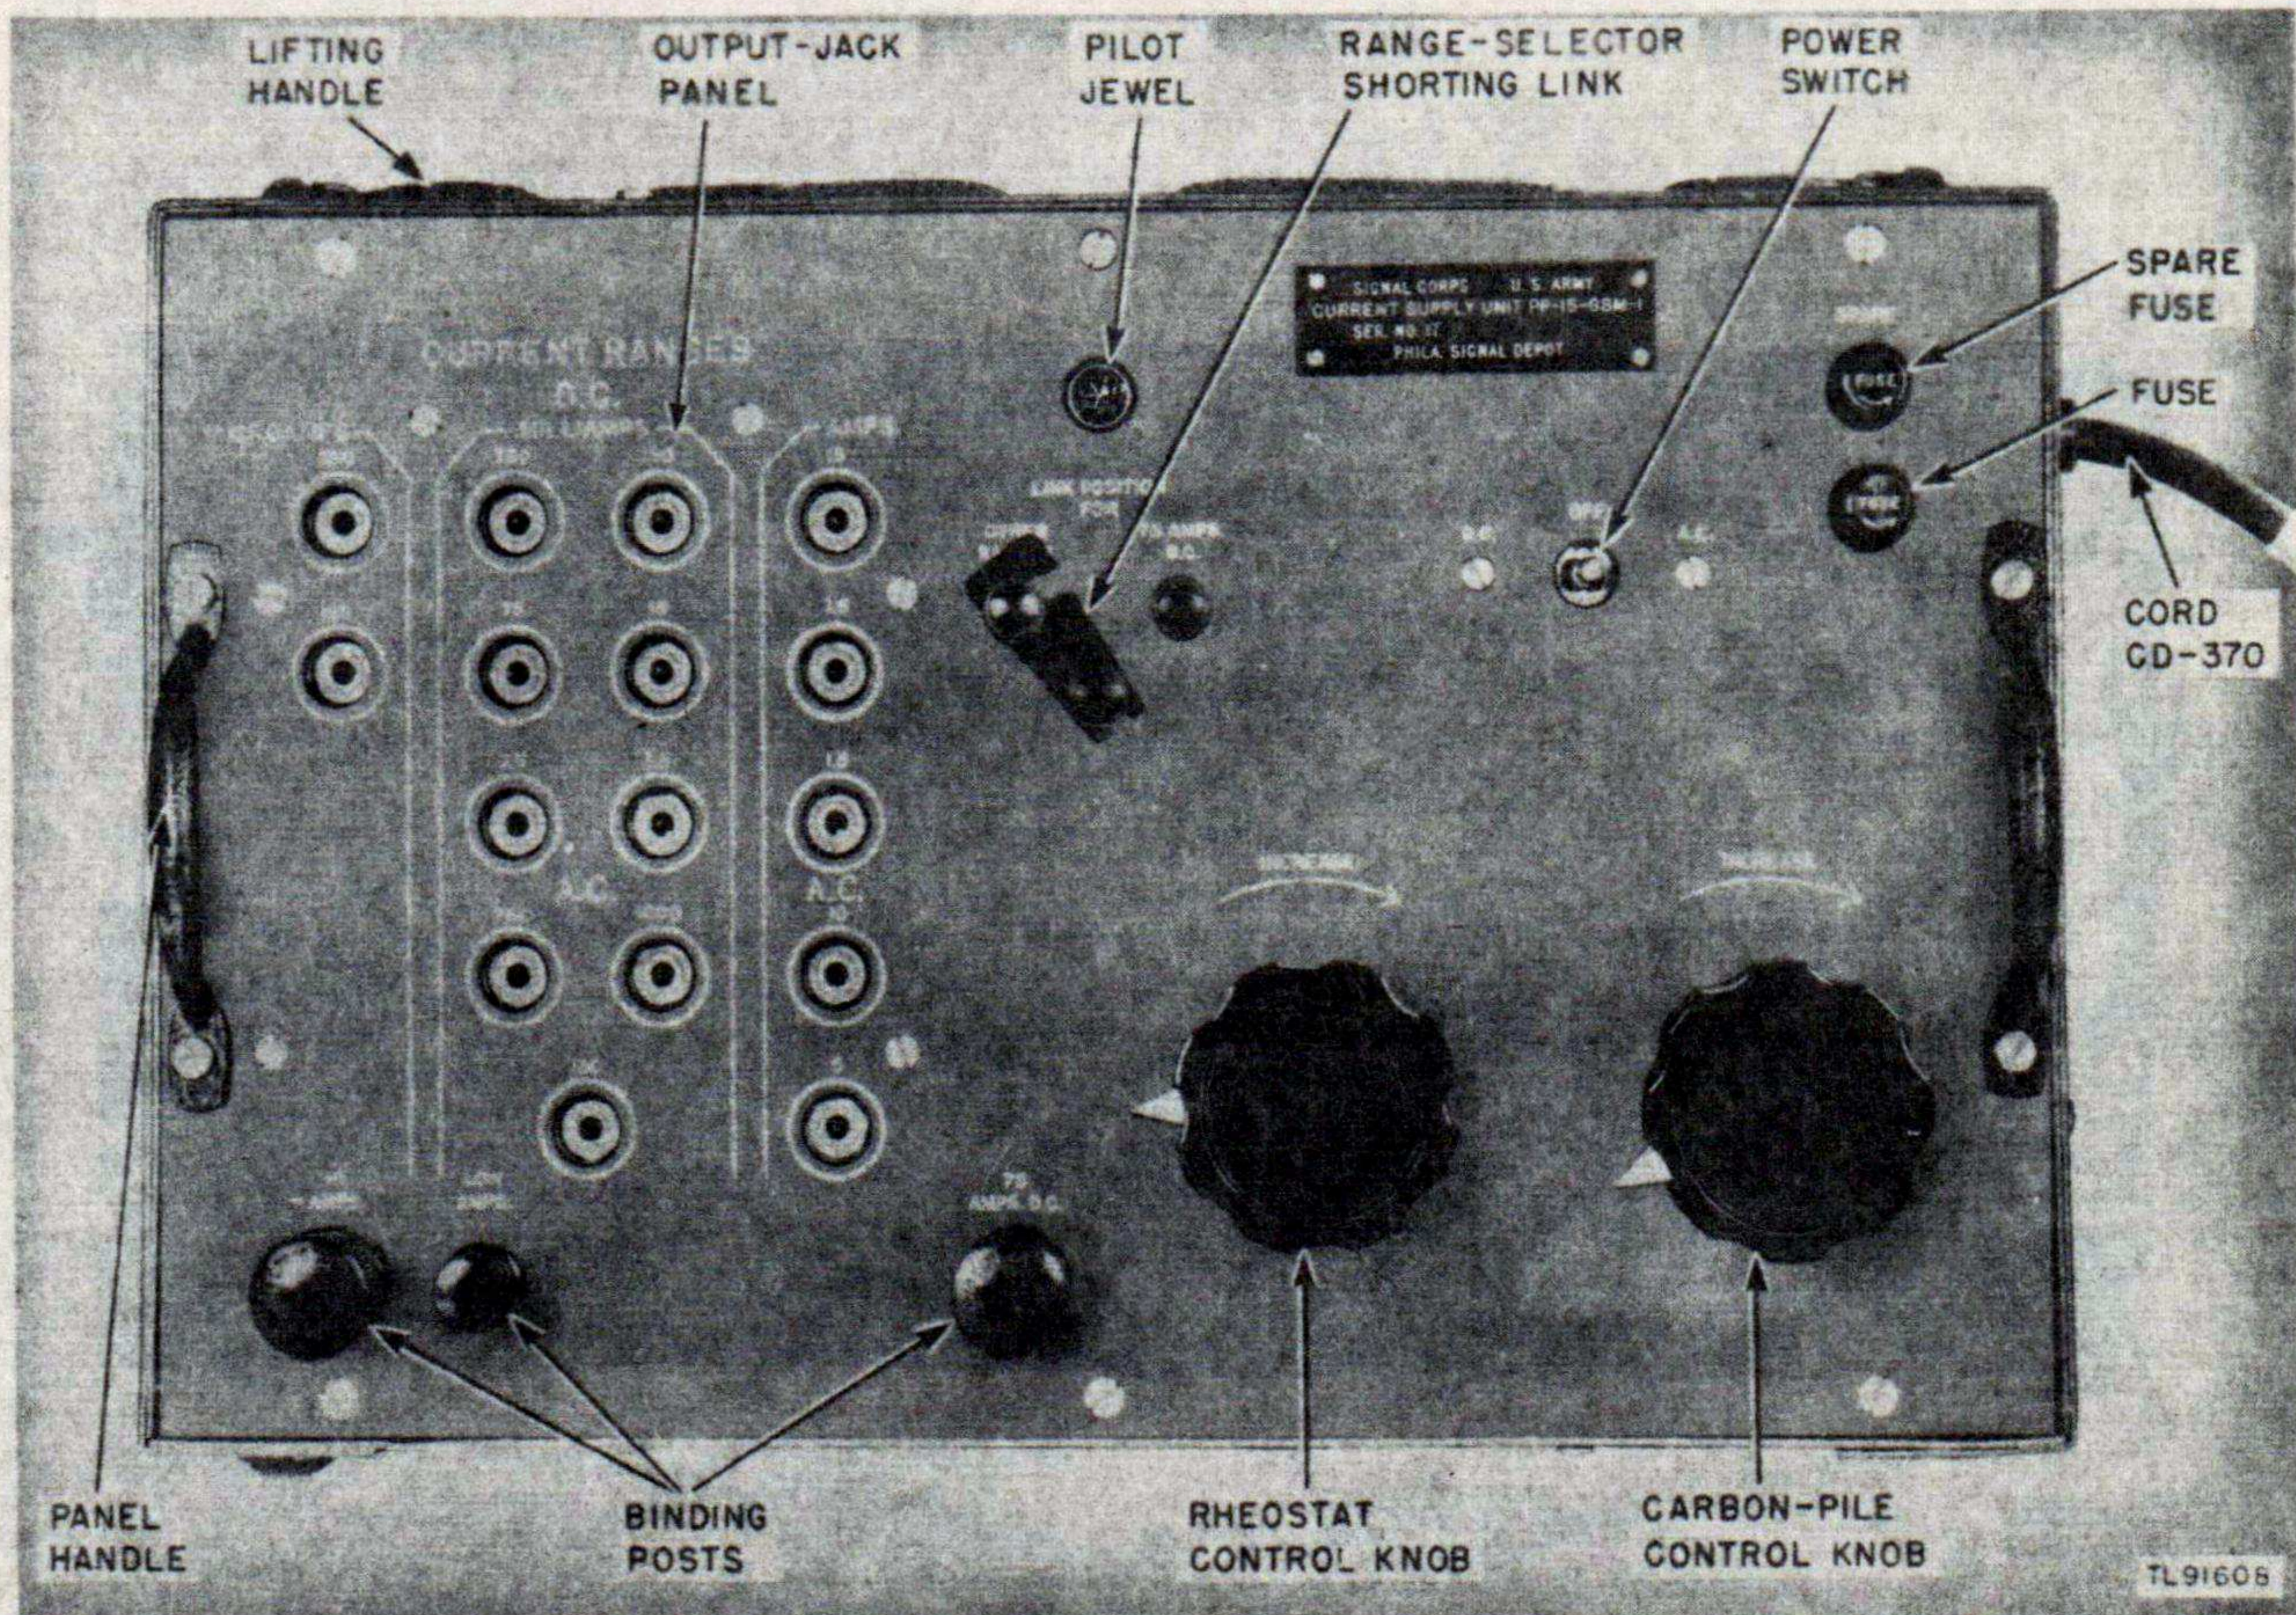

Figure 4. Current Supply Unit PP-15/GSM-1, front view.
(1) An opening in the right end of the case provides access to a receptacle mounted on the chassis for power input from a 100/120-volt, 60-cycle line.
(2) Openings on the left end of the case provide access to three receptacles for exterior connections to the standards units.
5. CURRENT SUPPLY UNIT PP-15/GSM-1 (fig. 4).